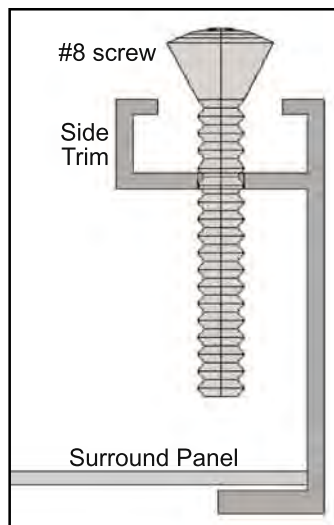

Figure 41: Screw to hold the trim against the surround.
7. On the side trims, there are holes 2" (50 mm) from either end. Use a Phillips screwdriver to place a #8 screw 1¼" long in each hole and tighten (refer to Figure 41). This will keep the trim tight against the surround.